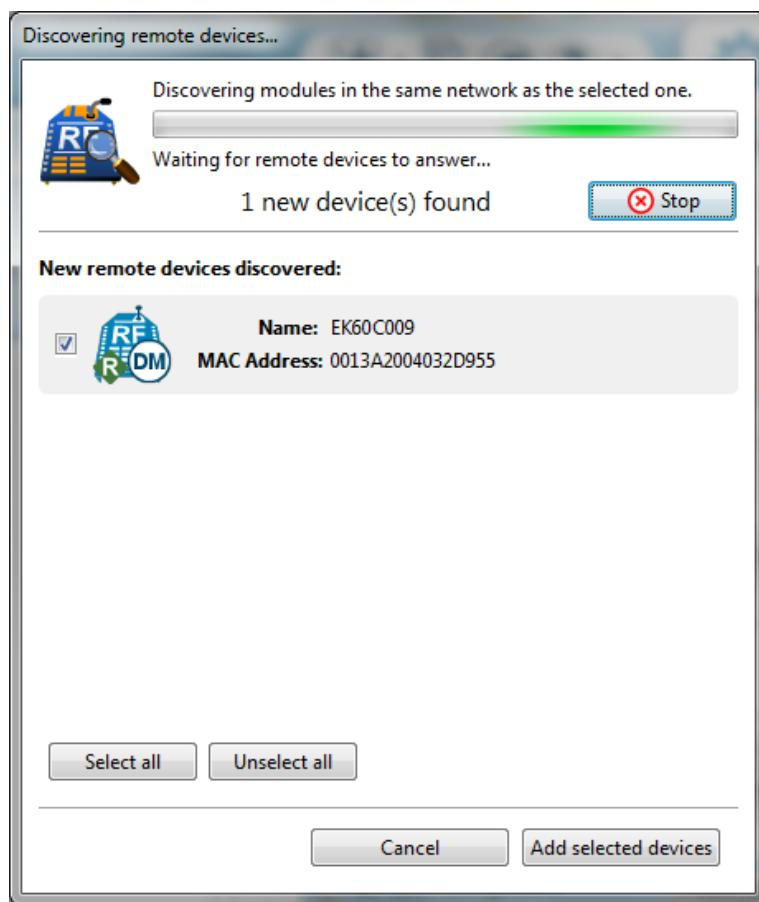

Figure 42: Discover remote devices window.
- h. Once the “AP API Enable” parameter has been changed, select the “Discover radio nodes in the same network” icon on the EK60R010 display on the left side of the main program window. This action will launch a new “Discovering remote devices” window (Figure 42), and the software will begin scanning the local wireless network for the various nodes that are available on the mesh network. Make sure all of the installed devices appear on the “New remote devices discovered” portion of this window. When all devices appear in this window, click on the “**Add selected devices**” button. This window will close, and the selected devices will appear below the base stations entry on the left column in the main XCTU window.